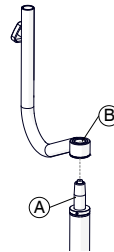
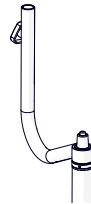

Fig.13
Fig.14
- Introduce the tube (support) hole **B** (Fig.13) through the piston axle **A** (Fig.13) until it stops on the ring (Fig.14).